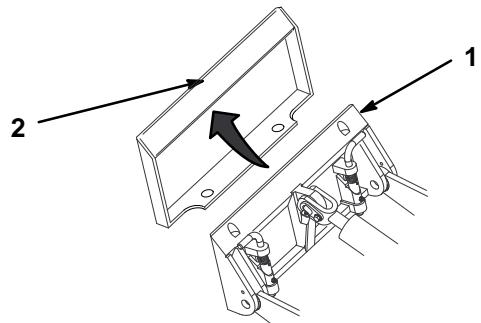

Figure 6
5. Drive forward, positioning the mount plate into the upper lip of the receiver plate (Fig. 6).